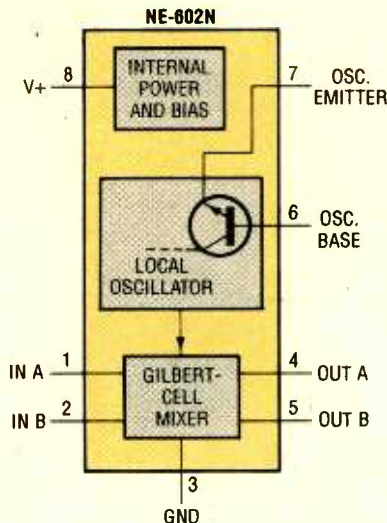

Fig. 2. This block diagram of internal NE602 circuitry reveals the two basic sections of the chip. Note that the local oscillator section is just a transistor.
The pinouts for the NE602N, shown in Fig. 2, are as follows: pins 1 and 2 are the differential RF inputs, pin 3 is ground, pins 4 and 5 are the push-pull outputs (either alone will also serve as a single-ended output), pin 6 is the oscillator-transistor base terminal, pin 7 is the oscillator-transistor emitter terminal, and pin 8 is the power-supply terminal.
**NE602 Output Circuits.** The output impedance of the NE602 is typically 1.5k (the same value as for the input impedance). The output terminals (labeled OUT A and OUT B back in Fig. 2) are a push-pull pair, but can be operated in a single-ended fashion simply by placing a DC blocking capacitor on the output you wish to use (either pin 4 or 5) and ignoring the remaining one (as shown in Fig. 5A). Unlike the equivalent input circuit, the unused output terminal does not need to be bypassed to ground.